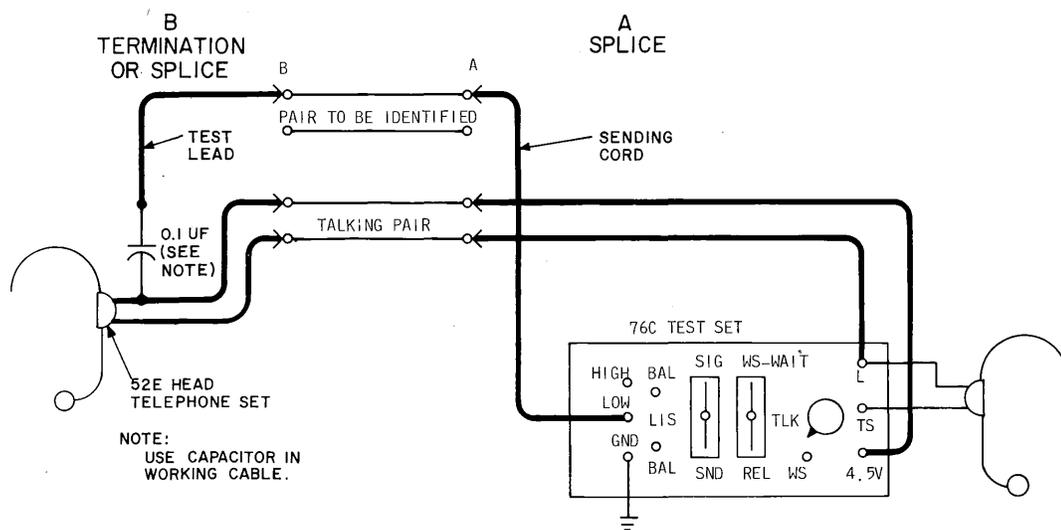

Fig. 6—Identifying Working Conductors—No Special Circuits
3.07 Using Fig. 6, perform the following STEP, ACTION, VERIFICATION procedures to identify pairs in working cables containing no special circuits: